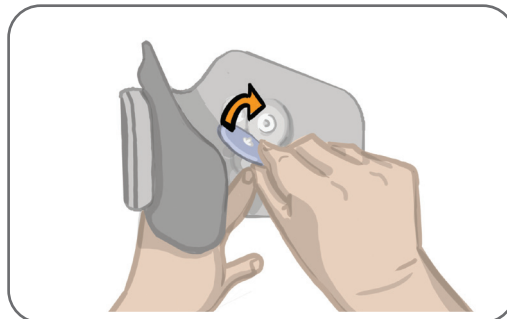

Figure 6-6: Attaching the Round Cloth Electrodes
5. Attach the Round Cloth Electrodes to the electrode bases. See Figure 6-6.